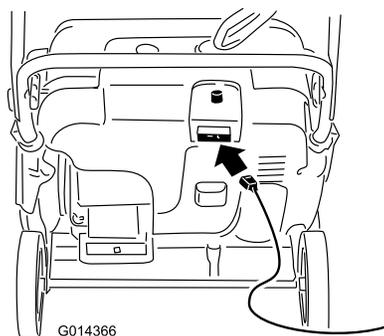
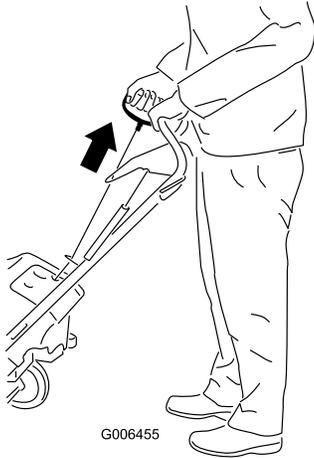

Figure 17
Figure 18
4. Connect an extension cord to a power source and the machine, and push the electric-start button (Figure 17), or pull the recoil start handle (Figure 18).